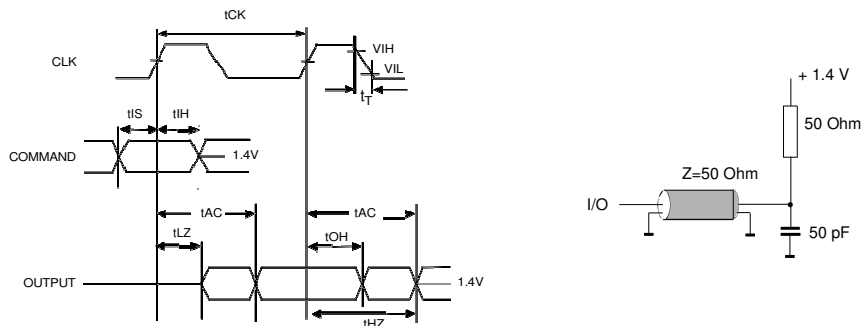

Figure 1.
- AC timing tests have  $V_{IL} = 0.4V$  and  $V_{IH} = 2.4V$  with the timing referenced to the 1.4 V crossover point. The transition time is measured between  $V_{IH}$  and  $V_{IL}$ . All AC measurements assume  $t_T = 1 ns$  with the AC output load circuit shown in Figure 1.